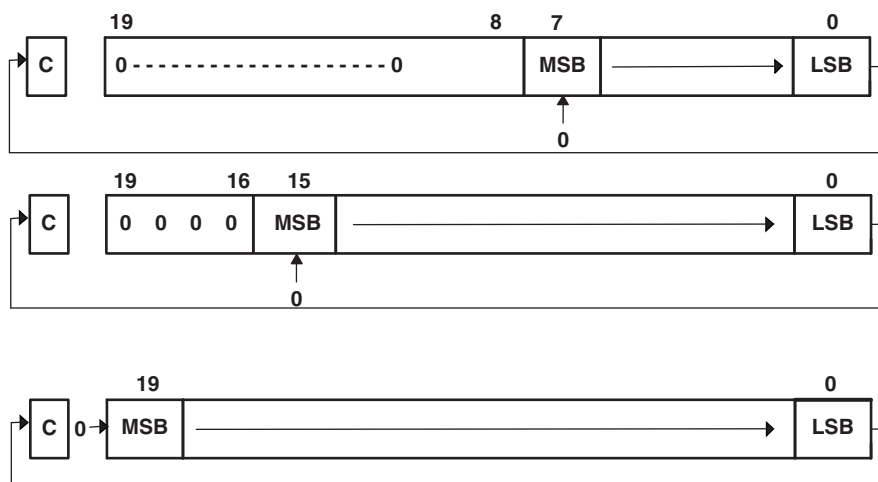

Figure 5-54. Rotate Right Unsigned RRUX(.B,.A) – Register Mode
**Description** RRUX is valid for register mode only: the destination operand is shifted right by one bit position as shown in Figure 5-54. The word instruction RRUX.W clears the bits Rdst.19:16. The byte instruction RRUX.B clears the bits Rdst.19:8. Zero is shifted into the MSB, the LSB is shifted into the carry bit.